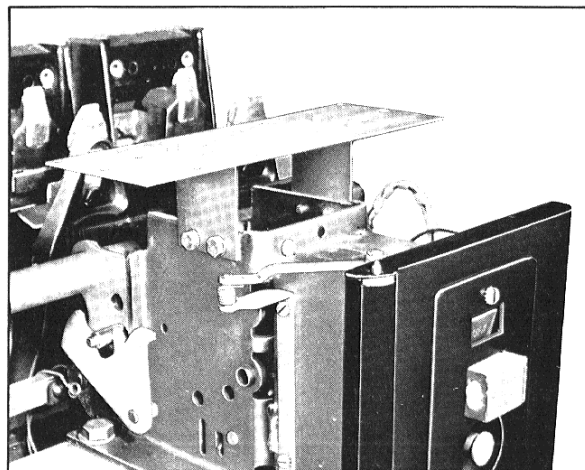
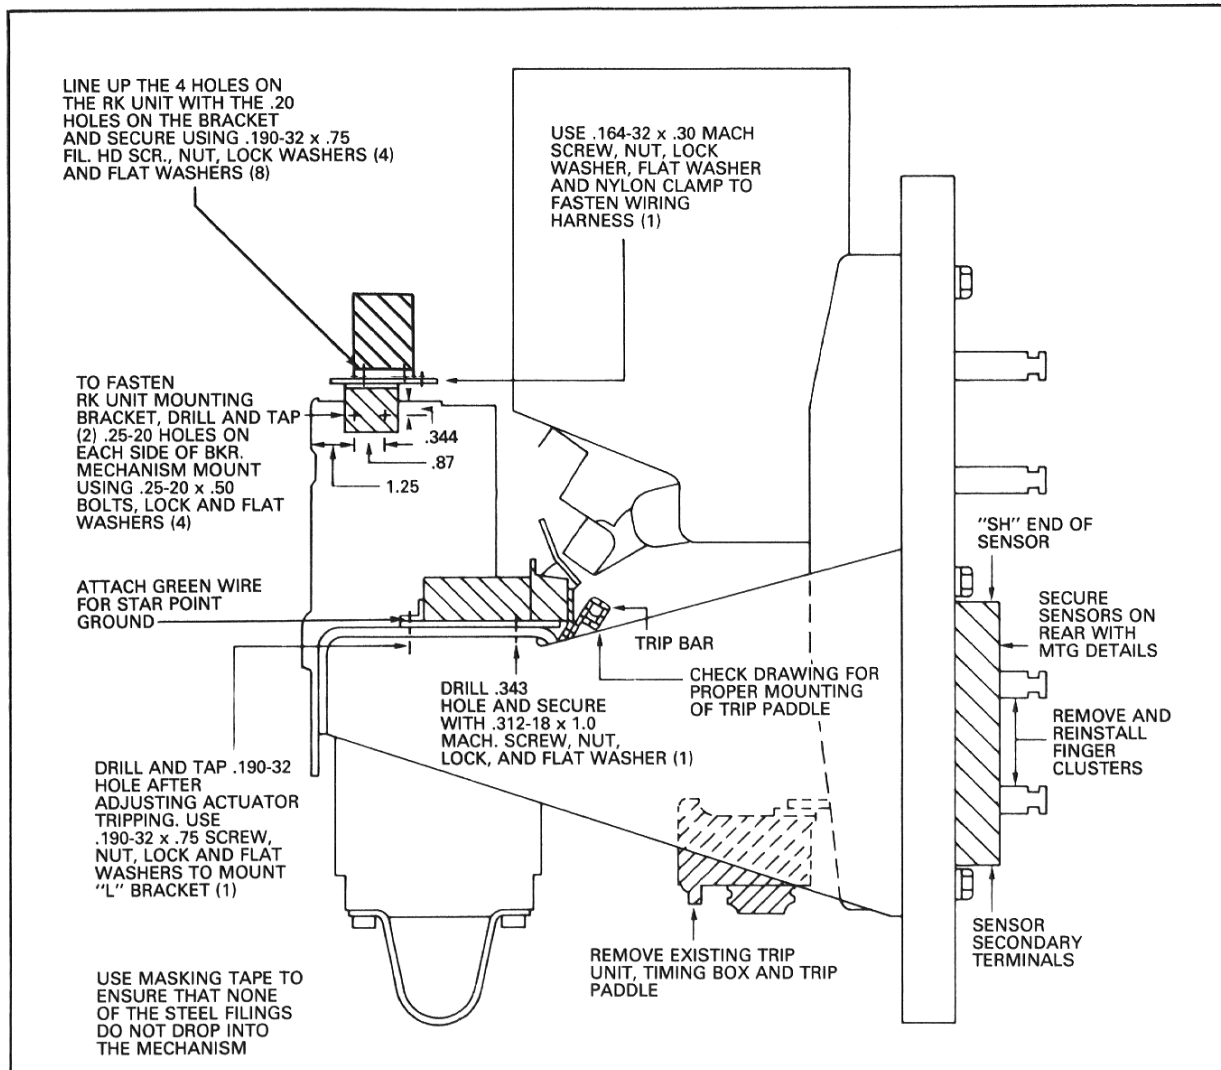

Fig. 8 Amptector Mounting Bracket
Fig. 12 Side View DB-75/DB-100 Breakers
5. Review the photographs to acquaint yourself with the items and location. Especially the right side view of the breaker Fig. 12.
*Note: Kits contain more hardware than required due to multi purpose use, check right side view Fig. 12 for number and size of hardware.
Remove the three electro-mechanical trip units, no copper jumpers required, Fig. 12.
5. The RK "mounting assembly" consists of a steel plate with two (2) .203 dia. holes, and two (2) .25-20 tapped holes, and two (2) "L" brackets riveted to it and 4" apart. Each "L" bracket has two .281 dia. holes, which line up with the newly .25-20 tapped holes when the assembly is fitted onto the breaker Fig. 8, secure the assembly to the breaker mechanism, with the .203 dia. holes in plate towards the arc chutes, use .25-20 x .50 bolts, lock and flat washers. Do not use longer bolts, as they will interfere with the mechanism linkages. See Fig. 12.
6. Locate the four (4) .208 tapped holes on the cross plate, line these holes up with those on the RK unit and secure using .190-32 x .75 fil. hd. screws, washers, lock washers and nuts. See Fig. 12.
Connect the green wire to the actuator (step 4 of actuator placement) and secure complete assembly. This now grounds the star point Fig. 12.
7. Wire the leads to the sensors and secure the wiring harness to the RK mounting plate using the .203 dia. holes and .164-32 x .5 screw, nut, washers and nylon clamps. See Fig. 12.